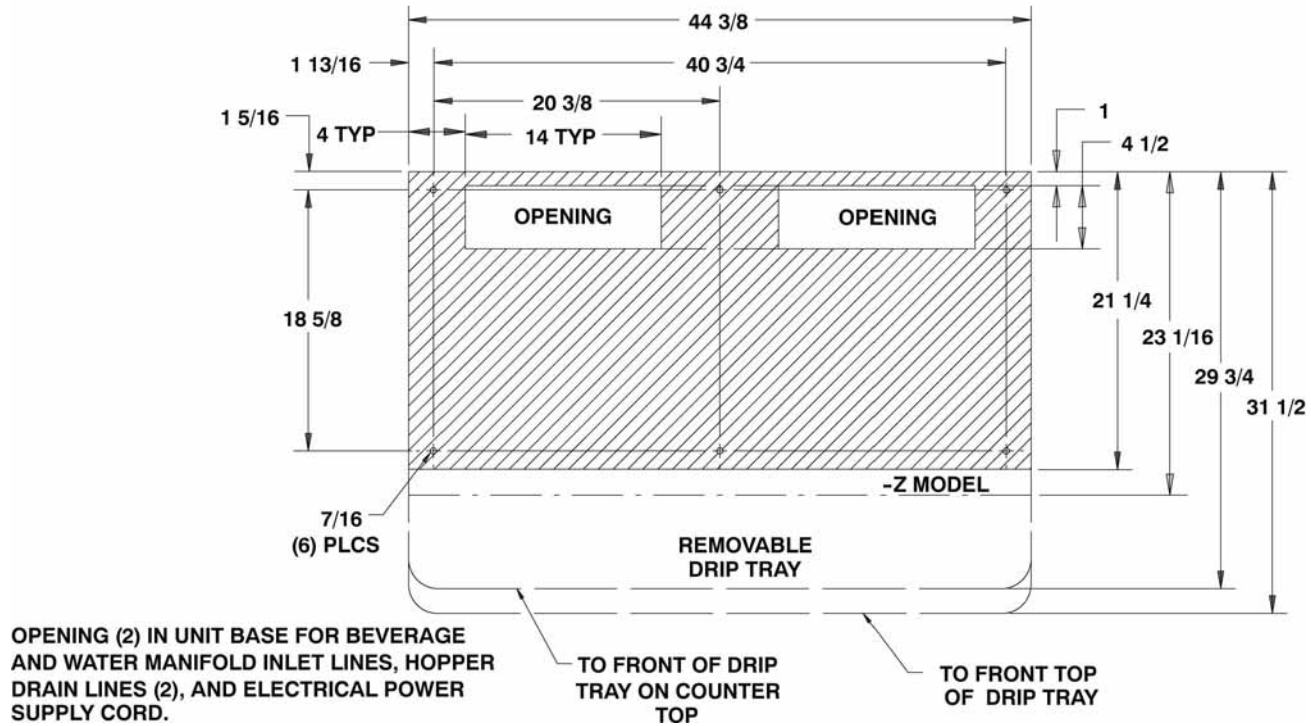

Figure 3. Mounting Template (Ice only-B Models)
The ice dispenser must be sealed to the counter. The template drawing (see Figure 3) indicates where openings can be cut in the counter. Locate the desired position for the dispenser, then mark the outline dimensions on the counter using the template drawings. Cut openings in counter.
2. The beverage tubes, drain tube and power cord are routed through the large opening in the bottom of the unit. See the MOUNTING TEMPLATE (Figure 3 or 4) for locating the required clearance opening in the counter for these utility lines.